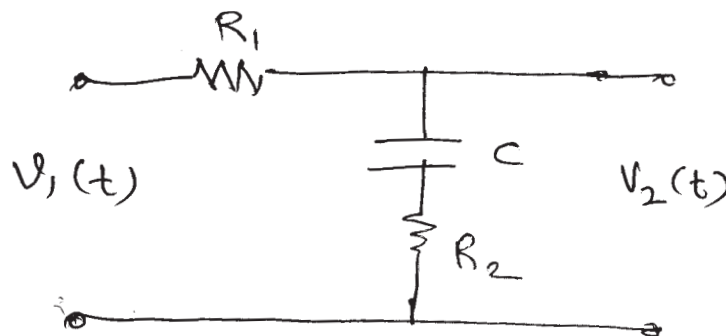

Fig 1b
b) Derive $G(s) = \frac{V_2(s)}{V_1(s)}$ of the network as shown in fig 1b. [8]